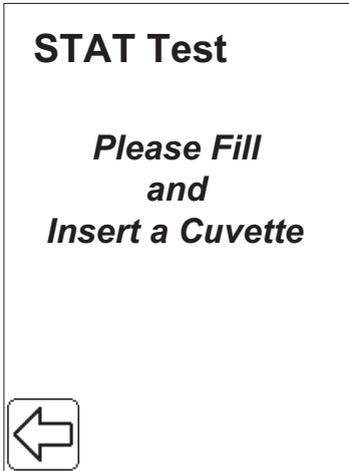

FIGURE 7-2
- a) In the Main Menu, press the STAT Test button (1) to enter the STAT Test procedure. *FIGURE 7-2* will be displayed.